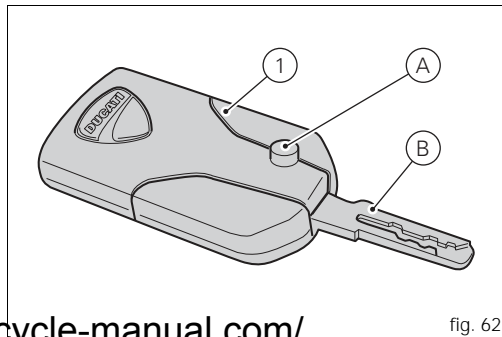

fig. 62
The active key (1, fig. 62) is the one that is normally used and has a button (A, fig. 62) that when pressed makes the metal part exit (B, fig. 62). The metal part returns inside the grip by pushing it in.